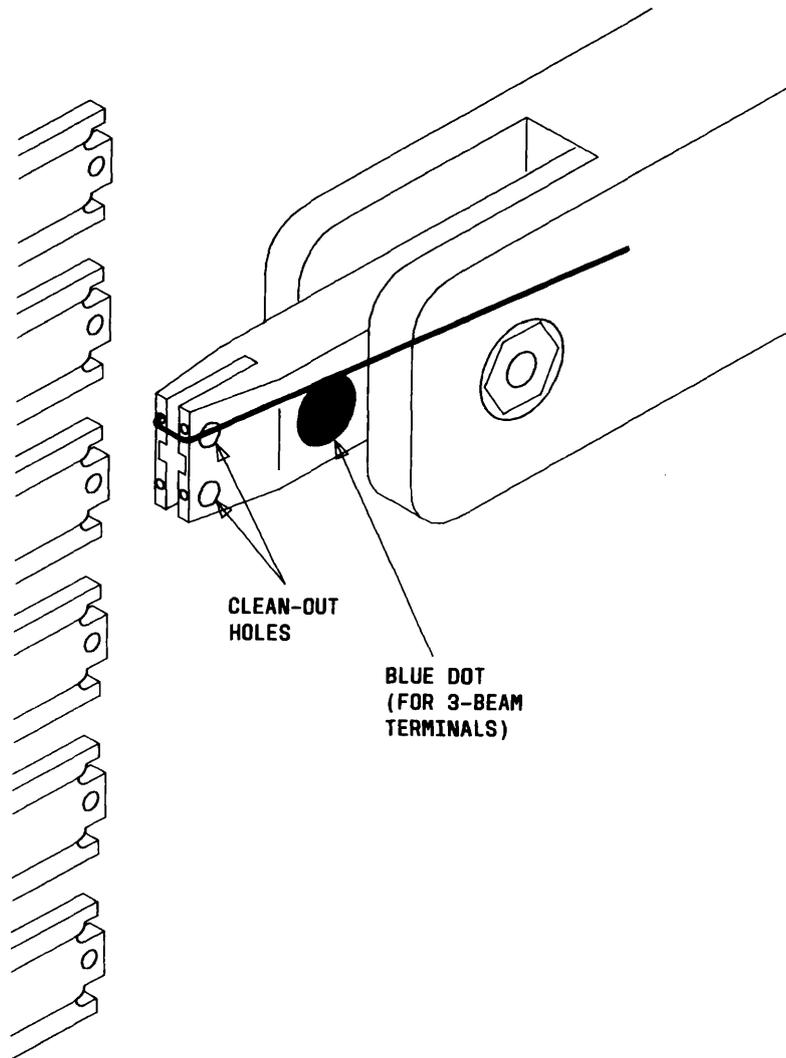

Fig. 17—Using the Wire Insertion Tool
beam quick-clip terminals (Fig. 17). The tool has two insertion heads. One head with a blue dot is used for connecting wires on 3-beam terminals. By loosening the pivot screw, the insertion head can be rotated 180° to expose the head with a red dot which is used for connecting wires on single quick-clip terminals.
3.06 The terminal is insulation-piercing so the wire does not have to be skinned before inserting it into the tool as shown in Fig. 17. To make a connection to a 3-beam terminal (89TB-type connecting blocks), proceed as follows: